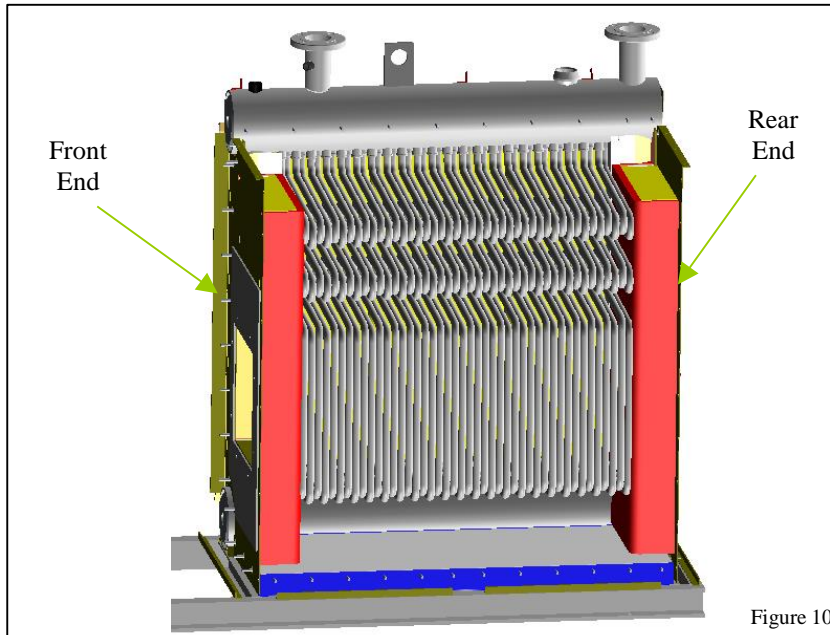

Figure 10
- 3.1 Arrange Flue Collector Front end onto Pressure Vessel and Base Pan Assembly. See figure 10. **Do not** tighten nuts until the whole flue collector is assembled with all nuts and bolts in place.
- 3.2 Install Flue Collector Rear end onto Pressure Vessel and Base Pan Assembly. See figure 10. **Do not** tighten nuts until the whole flue collector is assembled with all nuts and bolts in place.